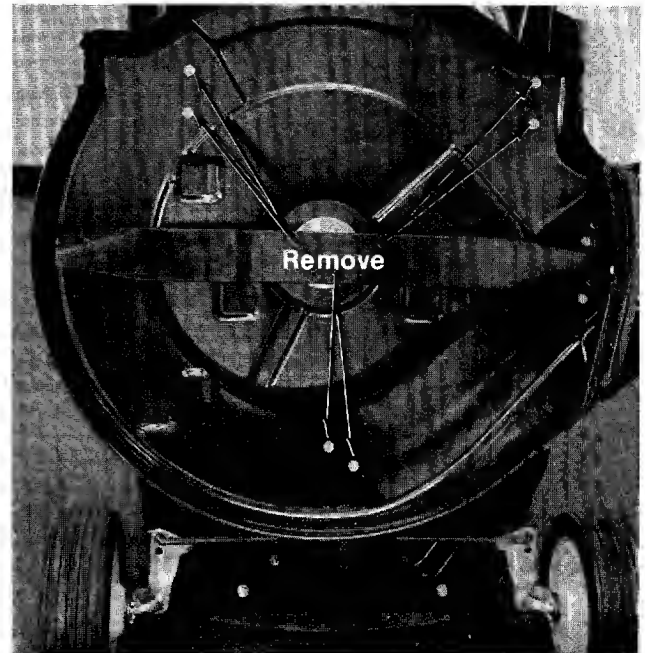

FIGURE 20. DECK REMOVAL
3. Remove six hex screws, nuts and lock washers holding the deck. See figure 20.